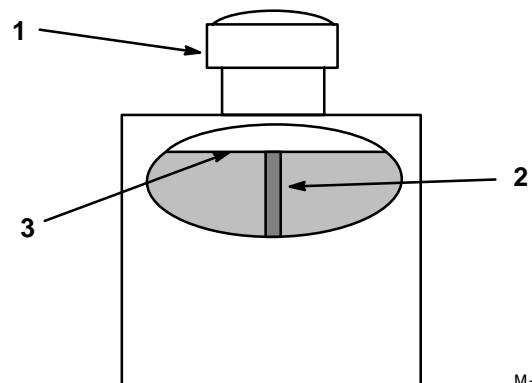

Figure 36
2. Clean area around filler neck of hydraulic tank (Fig. 36).
3. Remove cap from filler neck and look inside to check fluid level. Fluid level should be above the baffle inside the tank (Fig. 36).
4. If level is low, add fluid to raise level to above the baffle (Fig. 36).